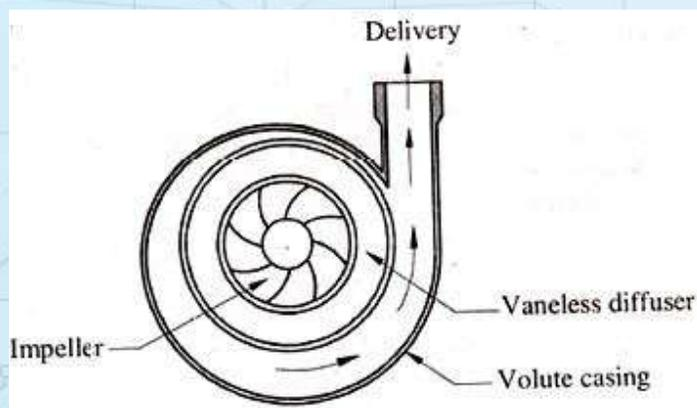

Fig.7.4 – Vaneless diffuser
- ▶ Diffuser is housed in a radial portion of the casing and it may be vaneless or vaned diffuser as shown in Fig. 7.4 and 7.5.